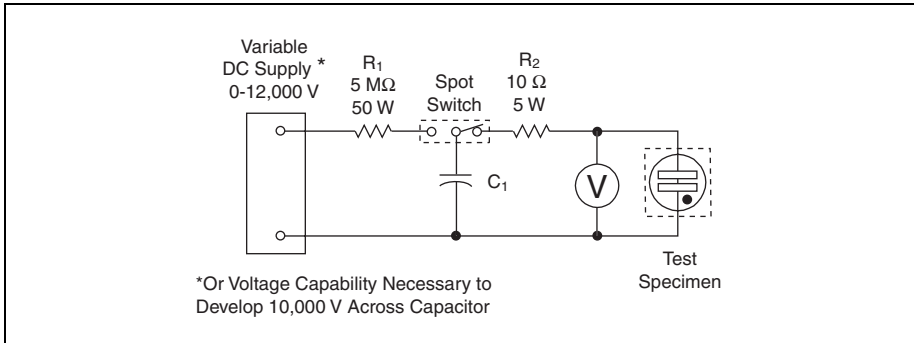

Figure 4.9 UL 497 Discharge Test
- **Discharge Test** — Protectors must comply with the strike voltage requirements after being subjected to five successive discharges from a 2 μ F capacitor charged to 1000 V dc. (Figure 4.9).
- **Repeated Discharge Test** — The arrester must continue to break down at or below its maximum rated breakdown voltage after being subjected to 500 discharges from a 0.001 μ F capacitor charged to a potential of 10,000 V dc. The interval between pulses is five seconds. Arrestors are to be tested in each polarity, and it is acceptable for the protector to short circuit following the discharge testing. (Figure 4.9)